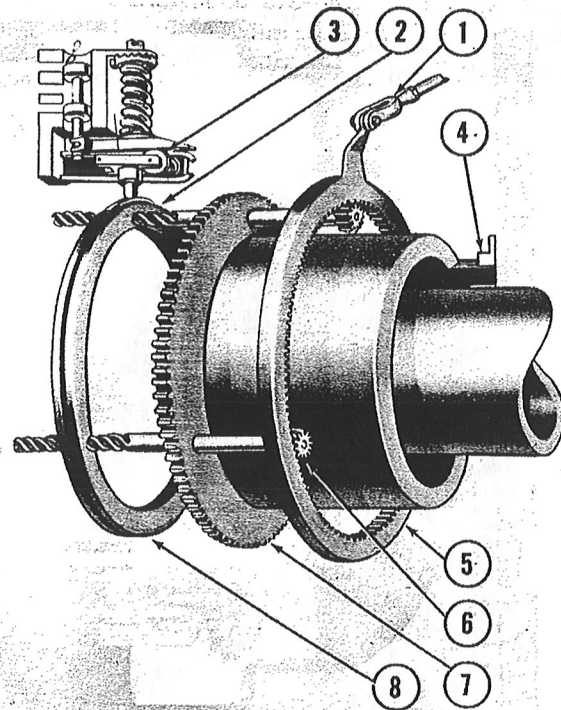

Figure 9—Control Mechanism
(8) CONTROL MECHANISM. (See figure 9).—Moving the cockpit control rotates the control lever which is integral with a ring gear having teeth on its internal diameter. These internal teeth mesh with three small pinions which form the head of control screws. Moving the control lever rotates the control screws which transmit a fore and aft movement of the control ring groove and transmits this fore and aft movement of the control ring to the roller fulcrum, thus changing its position. The control mechanism also incorporates a stationary pump power gear which drives the hydraulic fluid pump. The pump rotates about this gear. The stationary pump power gear is positioned by two bearings, one in the cover and one in the housing. Rotation of this assembly is prevented by an adapter stop which is bolted to the reduction gear case. The stop engages a slot machined in the flange of the regulator adapter plate.